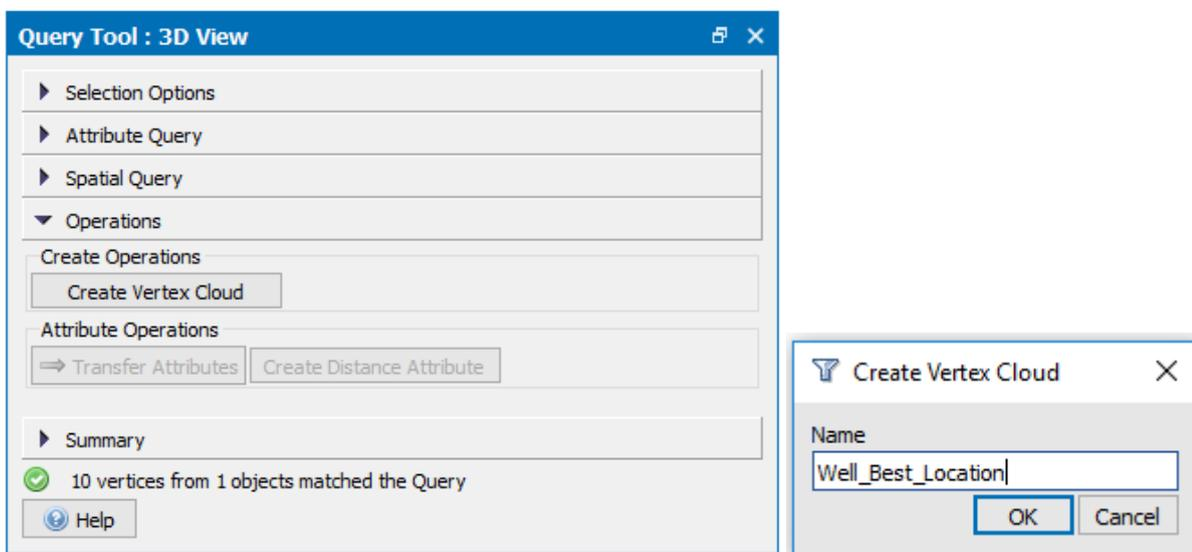

Figure 11. A new object can be created from a Query, clicking Create Vertex Cloud in the Operations tab and naming the new vertex cloud.
7. In the **Query** tool, click the **Operations** tab and click **Create Vertex Cloud** (Figure 11).